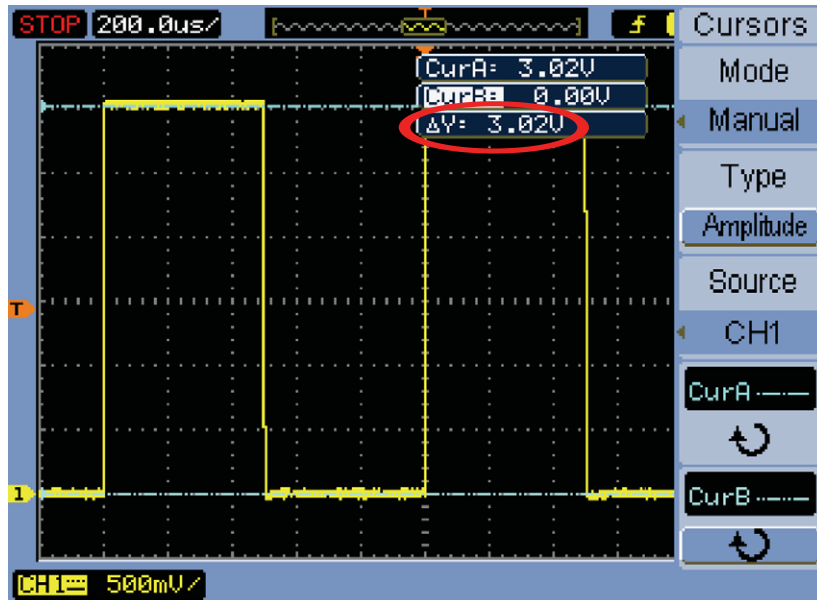

Figure 11 Using amplitude cursors to measurement the peak-to-peak voltage of the square wave
- 24 Rotate the **Entry** knob to position the B amplitude cursor onto the top of the waveform. Your scope's display should now look similar to Figure 11.